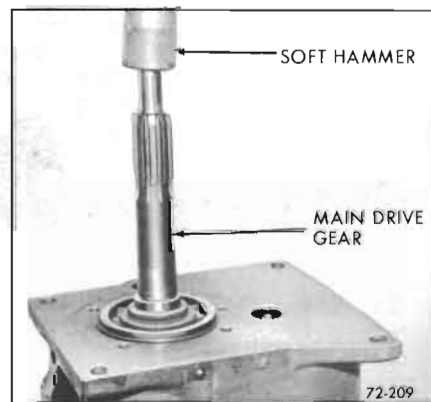

Figure 72-209—Removing Front Bearing
19. If it is necessary to remove main drive gear bearing, use a soft hammer, tap gear down through bearing as shown in Figure 72-209.